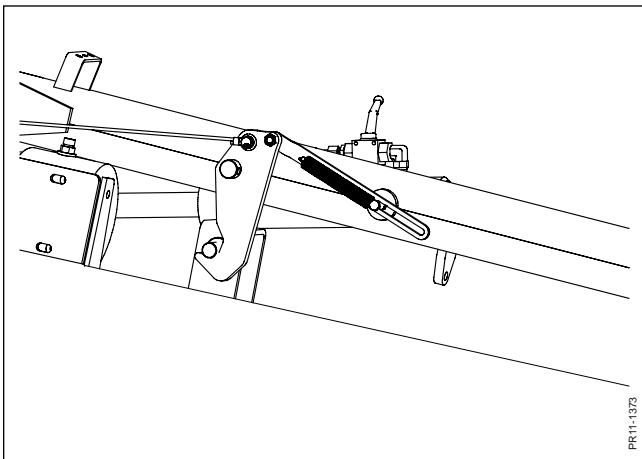

Fig. 3-3
- Fig. 3-3 Check that the transport hook is in mesh before road transport. The Easy Lift cylinder should not be completely lowered during transport.